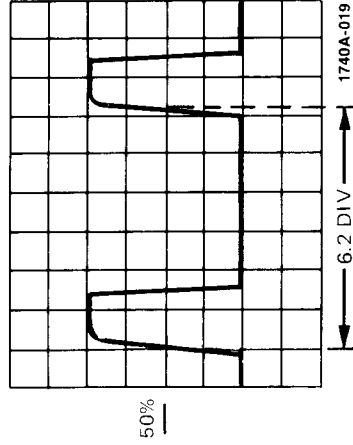

Figure 16. Time Interval Measurement Using Main Time Base
5. Using horizontal POSITION, place the 50% point of the first pulse on a convenient graticule line and count the number of divisions to the 50% point of the second pulse (see figure 16).